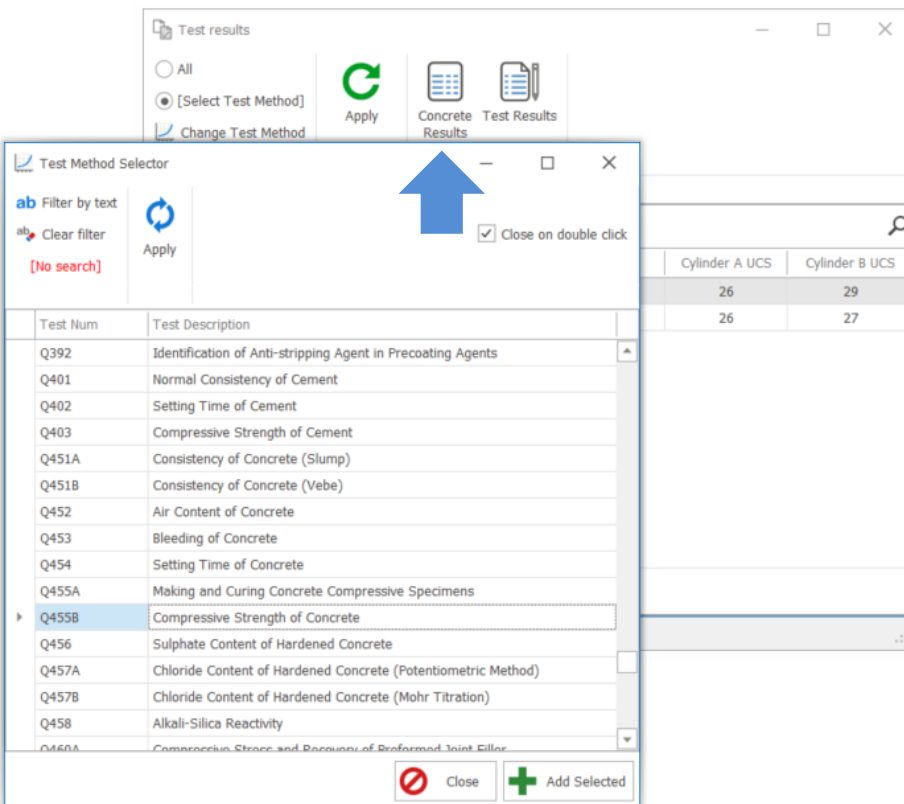

Figure 105 Selecting Test Method for Concrete Results
- To view concrete test results showing analyses as defined by Queensland Main Roads Specifications, click on *Select Test Method* from the Test Results screen ribbon menu and select the test method from this list provided in the *Test Method Selector* – see Figure 105.